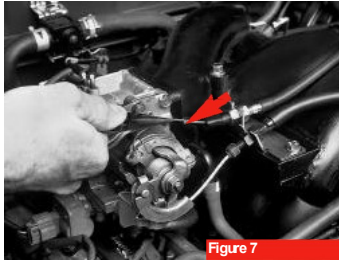
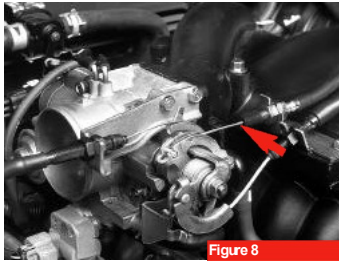

Figure 7
Figure 8
11. Note the tension and adjustment of the throttle cable and the transmission throttle-pressure (kick down) cable (if equipped with an automatic transmission). You will need to re-create these adjustments during the assembly procedure. To help you remember, look for the small metal bead (the stake stopper, automatic transmission only) on the kick down cable (see arrow, figure 7). If the cable is properly adjusted, the bead should be flush with the end of the cable's rubber sheath (see arrow, figure 8).